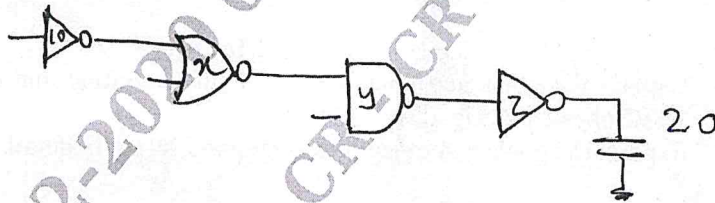

Fig.Q3(b)
- b. Calculate the optimal stage effort and size of transistor for the circuit shown below in Fig.Q3(b). (10 Marks)